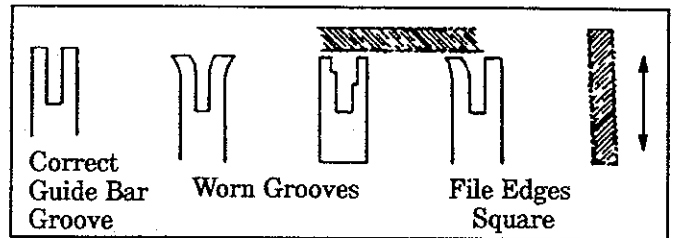

Figure 32
- the guide bar is bent or cracked. See Figure 32.
- d. Remove burrs by filing the side edges of the guide bar grooves square with a flat file. Figure 32.
- e. Restore square edges to an uneven rail top by filing with a flat file. Figure 32.